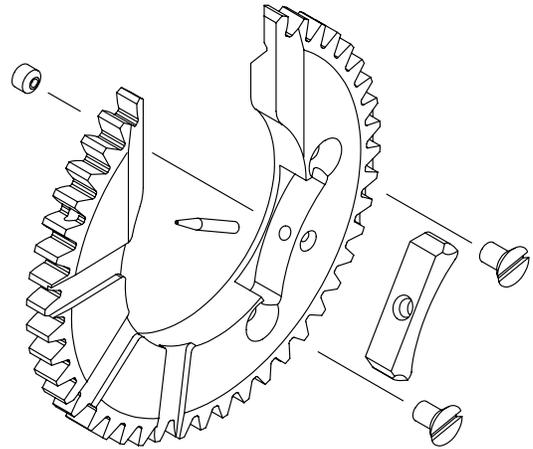

Figure 61 Replacing the Ceramic Insert
7. Seat the new ceramic insert into the pocket in the track of the rotor, with the beveled edge facing out. See Figure 61.